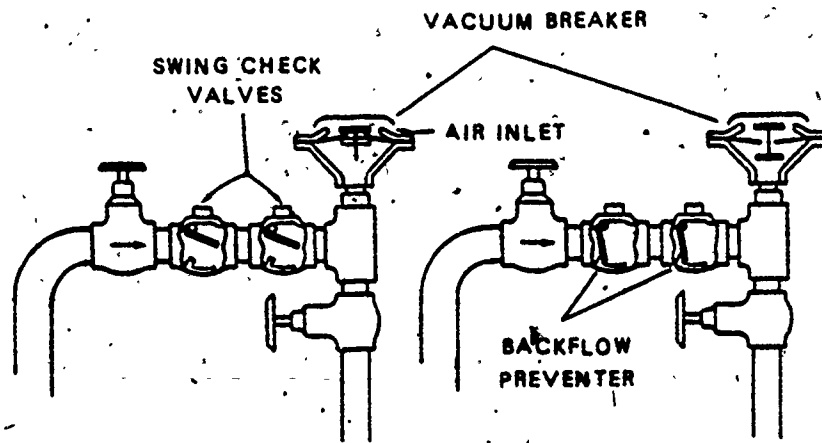

Figure 7-10. Combination backflow preventer and vacuum breaker.
**Installation of Lawn Sprinkler Systems.** Like all other plumbing systems, lawn sprinkler systems must be installed using good plumbing practices and codes. The water source for a lawn sprinkler system can be either domestic, a stream, or lake. At no time should the domestic water system be connected to a nonpotable water source. When the domestic water supply is used as the source of a lawn sprinkler system, there must be a combination backflow preventer and vacuum breaker installed on the outlet side of the sprinkler system's main control valve as illustrated in figure 7-10. This will prevent the possibility of contamination due to pressure loss in the supply system. At the same time, it will permit the sprinkler system to drain through the automatic drain valve, which should be installed in the system at its lowest point.